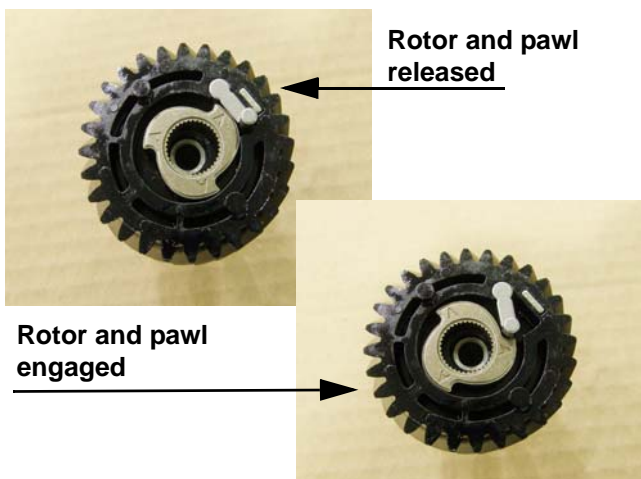

Figure 4.68
10. Taking the drag plate off reveals the pawl and the rotor. See Figure 4.68.